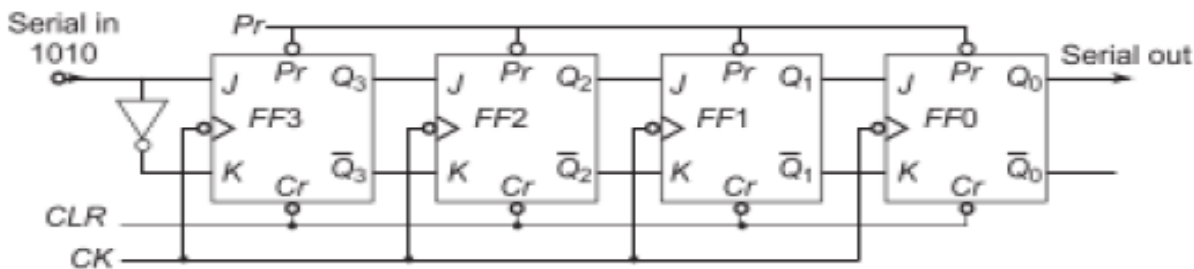

Fig. 2.17: 4-bit shift register
- A 4 bit shift registers using JK flip-flop (bistables) is shown in figure 2.17.